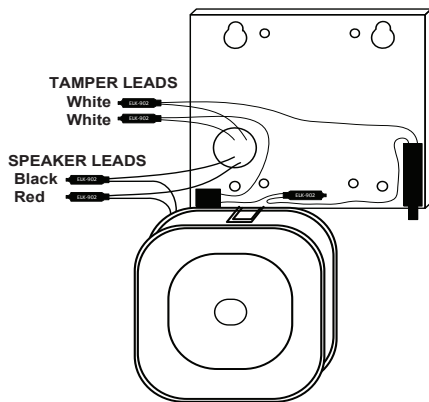

Figure 2
3. Temporarily hang the speaker on the backplate by aligning the slotted insert on the top edge of the speaker with the 1/2" recessed tab on the bottom edge of the backplate. Press speaker onto tab. (See Figure 2)